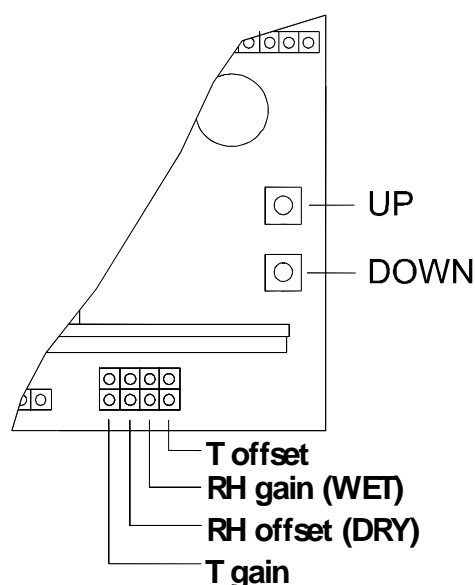

Figure 5 Calibration Pins and Pushbuttons
You can also perform the calibration with pushbuttons and a jumper on the component board (see Figure 5 on page 24). In addition, you need a digital multimeter (DMM). There are two push buttons (UP and DOWN) and four pairs of pins (RH offset, RH gain, T offset, and T gain), which are connected with the calibration jumper. Vaisala recommends using the RH offset pins if the RH is less than 65 %RH and the gain pins if the RH is greater than 65 %RH.
5. Connect the jumper to the RH offset pins (see Figure 5 below) and adjust the output signal with push buttons to the value given in the calibration table (Table 5 on page 25).
- Connect a jumper to the T offset or the T gain pins. Adjust the reading with UP and DOWN switches (see Figure 5 on page 24). Note that during gain adjustment, the offset point does not change: